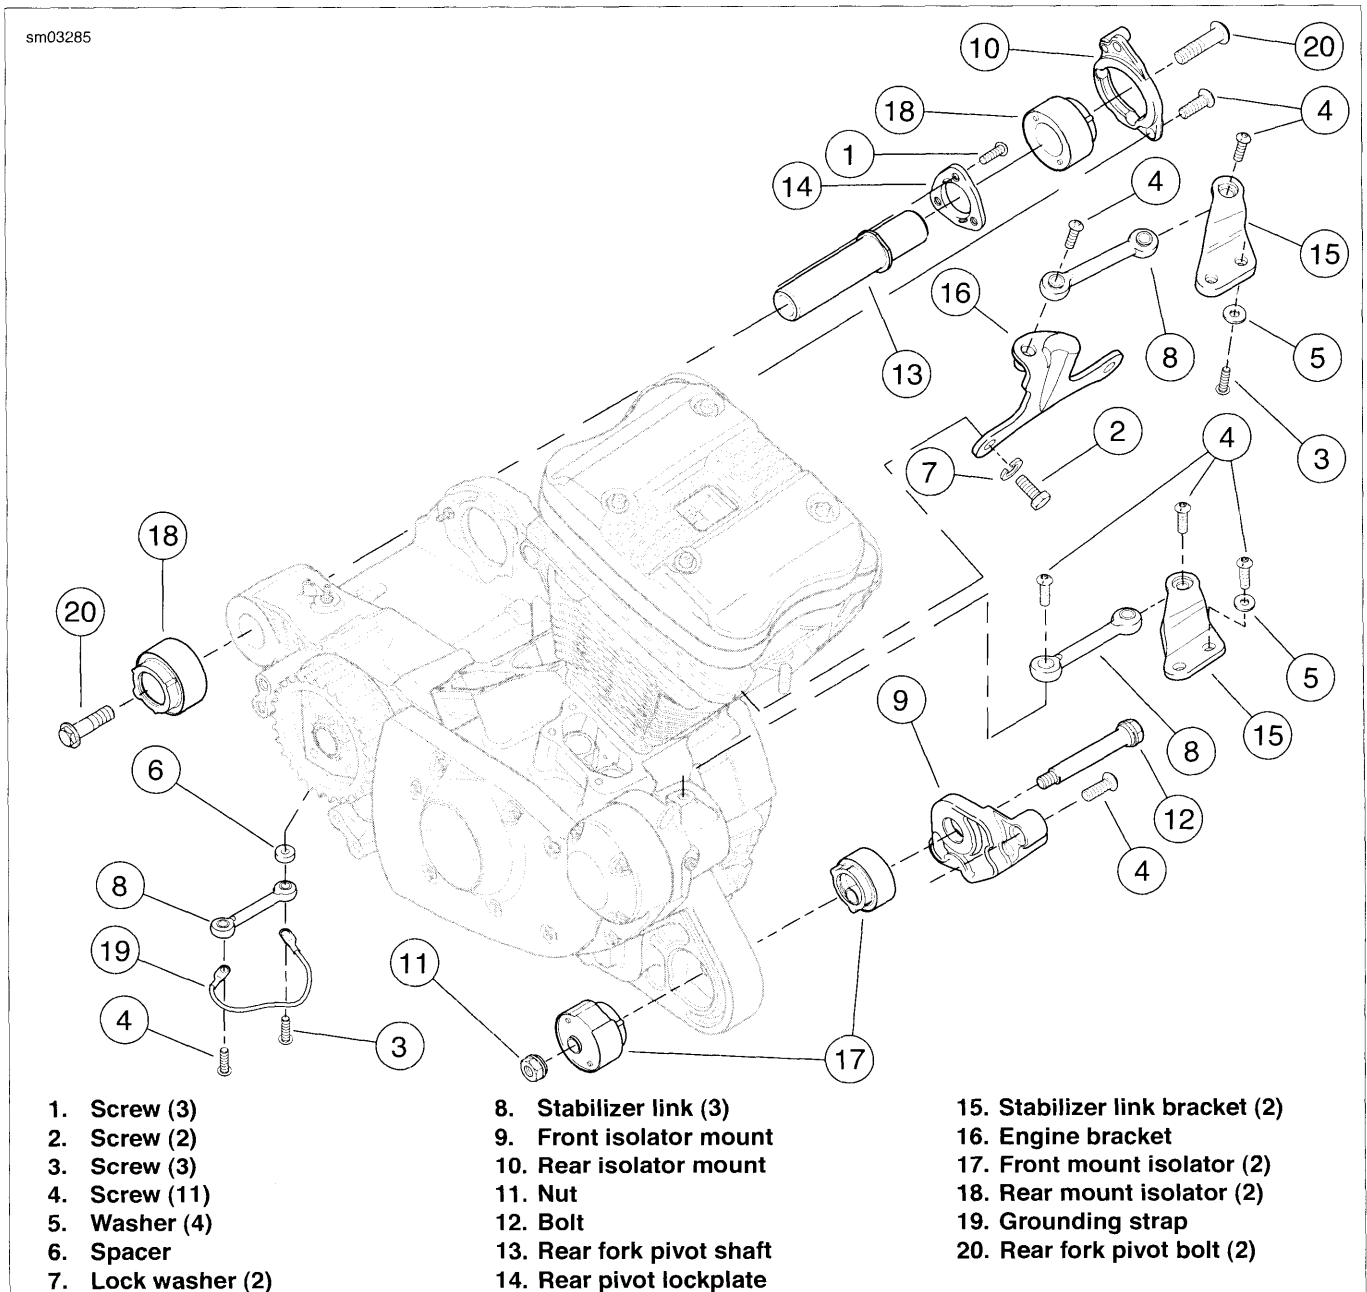

Figure 1-89. Engine Mounting Assemblies: All Models (XL Model Shown)
1. See Figure 1-89. Check for cracks or tears in engine mount isolator rubber (17, 18).
2. Check for lateral movement at each end of the three stabilizer links (8). Any lateral movement indicates the need to replace the stabilizer link. Rotational movement does not indicate excess wear.